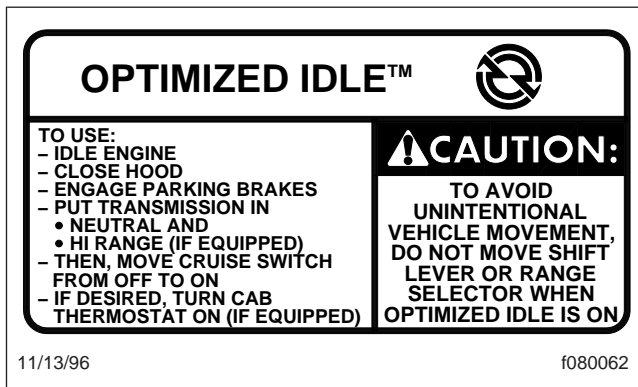
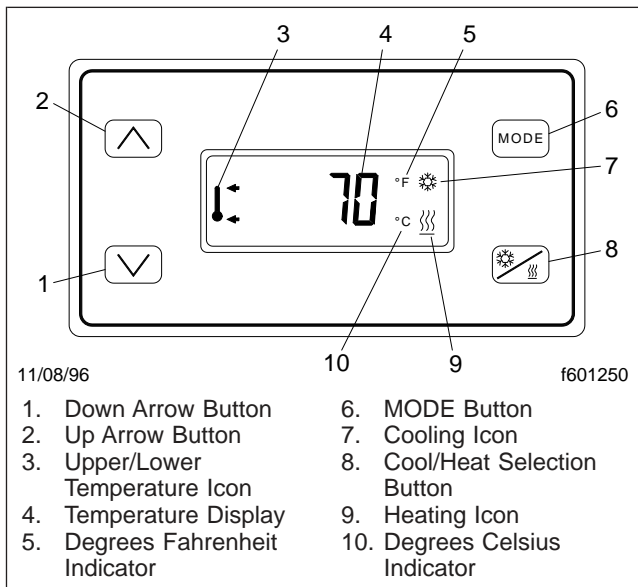

Fig. 11.3, Optimized Idle Dash Label
Fig. 11.4, Optimized Idle Thermostat
Vehicles equipped with Optimized Idle have a label on the dash, and a telltale (OPT IDLE) in the ICU. See Fig. 11.3 for the dash label detail. If equipped, a thermostat is located above the sleeper bunk. See Fig. 11.4.
2.2 Turn on the thermostat by touching any of the four buttons. See Fig. 11.4.